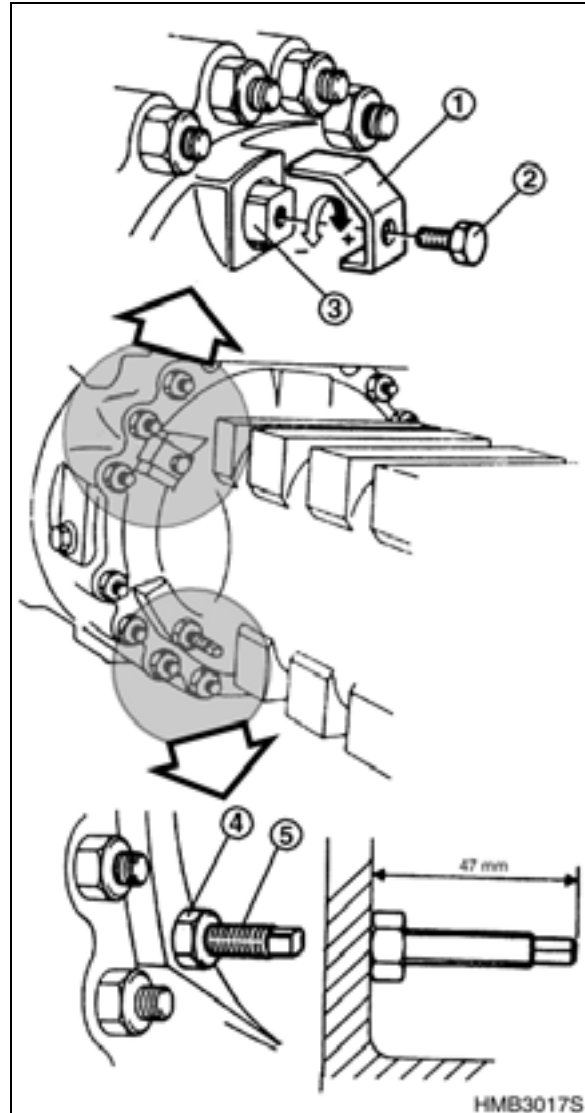

Figure 105
2. Remove lock bolt (2, Figure 105) and bracket (1).
3. Rotate the square pinion adjusting bolt (3, Figure 105) in counter clockwise direction until it stops. At this time the clearance of brake disk is "O."
4. Rotate adjusting bolt (3, Figure 105) clockwise three turns.
5. Install lock bracket (1, Figure 105) and bolt (2).
2. Loosen lock nut (4, Figure 105) from adjusting bolt (5).
3. Tighten adjusting bolt (5, Figure 105) until it stops. This will manually release the parking brake so that the drive shaft will be free to turn.